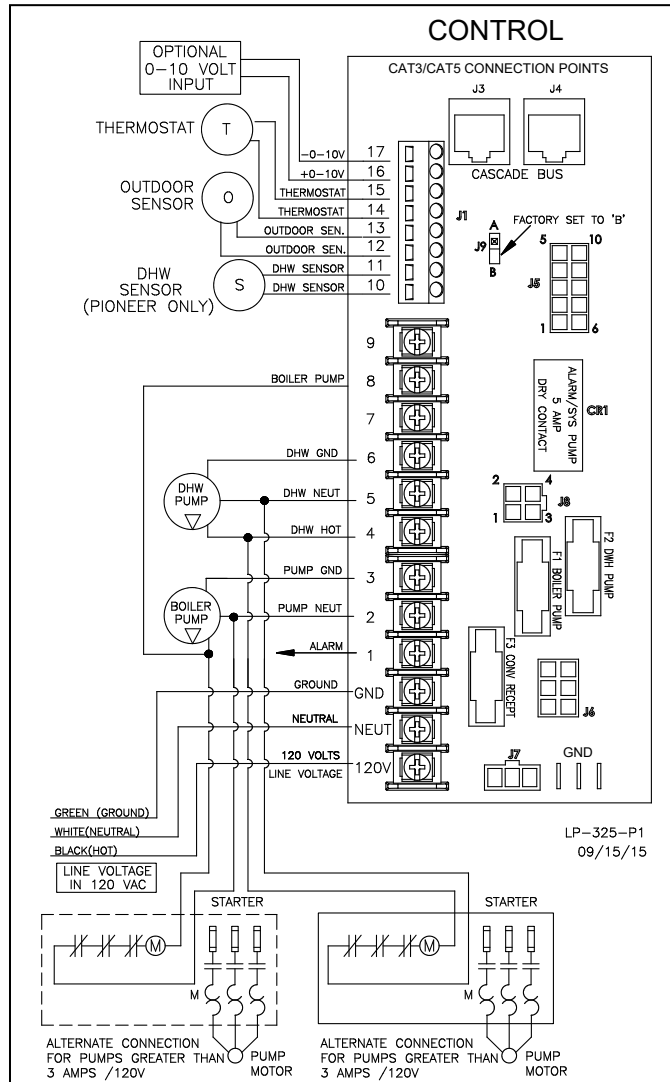

Figure 16 - Standard Appliance Customer Connection Board Detail
2. Connect the central heating pump to the terminals marked 8 (HOT), 2 (NEUT), 3 (GND) in Figure 16. The connections shown are suitable for a maximum continuous pump draw of 5 amps at 120 volts. If the pump requires more current or voltage other than 120